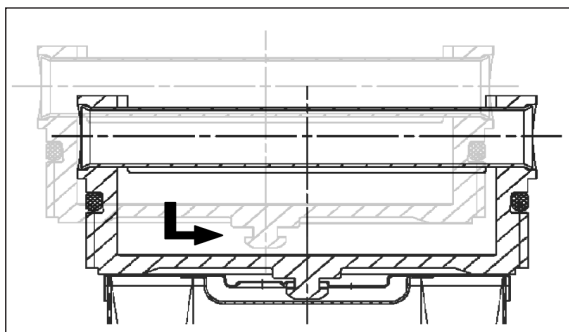

Fig. 7: Attaching the cover to the filter element
3. Attach the filter element to the cover (see Fig. 7).